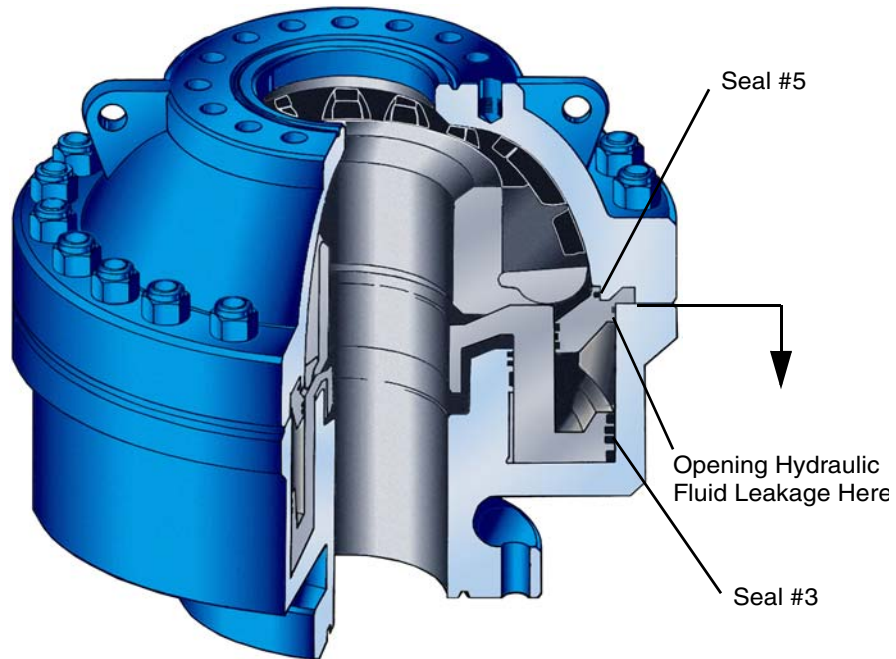

Figure 3-15. Seal #5 External Leakage Check (Applicable To All Models)
5. Check seal #5 by inspecting for external leakage. In Spherical bolted-cover models, hydraulic fluid will flow out between the upper and lower housing flanges (see Figure 3-15 on page 3-26).